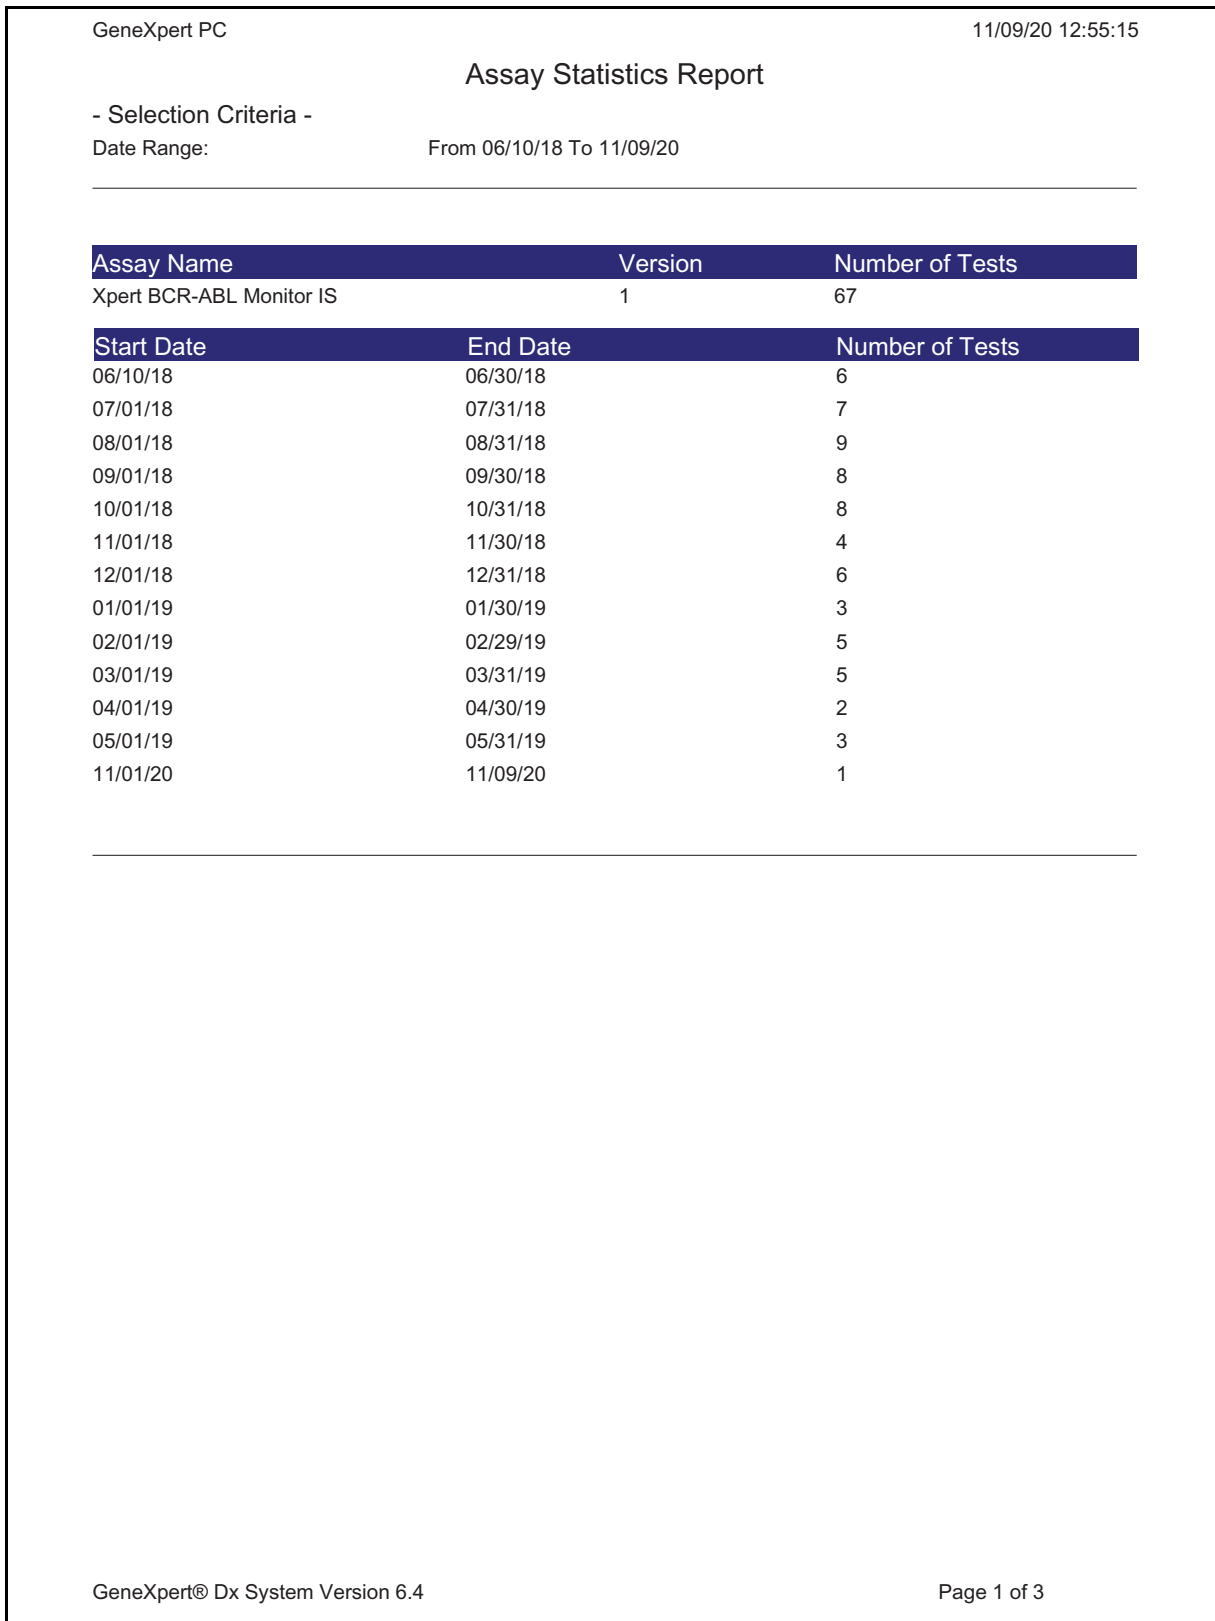

Figure 5-79. Example Assay Statistics Report
- 2) Optionally, to print the report, go to the saved location, open the report and print it. A report similar to the report shown in Figure 5-79 will be printed.
- **Preview PDF**—Creates a PDF file and displays the file in the Adobe Reader window. See Figure 5-79. You can save and print the PDF file from the Adobe Reader software.